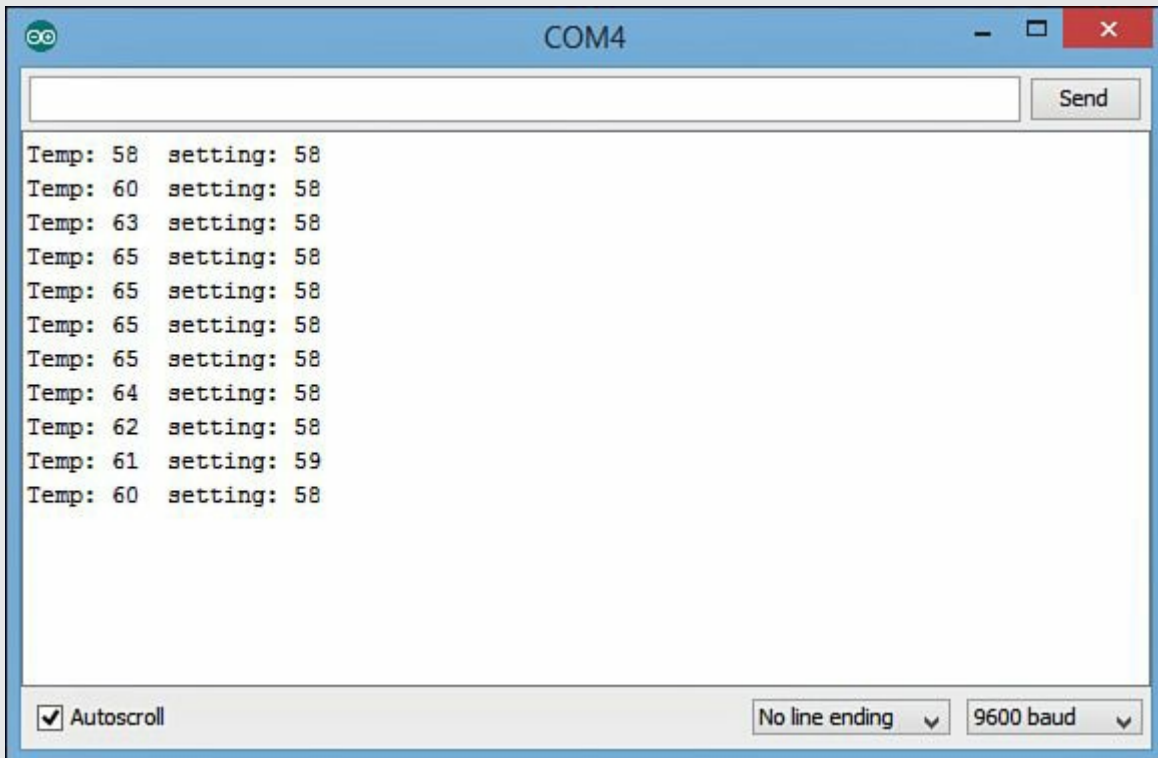

FIGURE 24.4 The serial monitor output from testing the temperature sensor.
2. Turn the potentiometer to change the voltage output. Try to match the setting output to the temperature output as shown in the serial monitor. Figure 24.4 shows the output you should see.